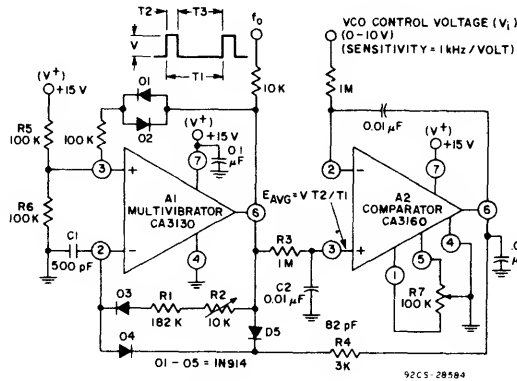

Fig.21 - Voltage-controlled oscillator.
The circuit diagram of a precision voltage-controlled oscillator is shown in Fig.21. The oscillator operates with a tracking error in the order of 0.02 percent and a temperature coefficient of 0.01%/°C. A multivibrator (A1) generates pulses of constant amplitude (V) and width (T2). Since the output (terminal 6) of A1 (a CA3130) can swing within about 10 millivolts of either supply-rail, the output pulse amplitude (V) is essentially equal to V+. The average output voltage ($E_{avg} = V T_2/T_1$) is applied to the non-inverting input terminal of comparator A2 via an integrating network R3, C2. Comparator A2 operates to establish circuit conditions such that $E_{avg} = V_1$. This circuit condition is accomplished by feeding an output signal from terminal 6 of A2 through R4, D4 to the inverting terminal (terminal 2)